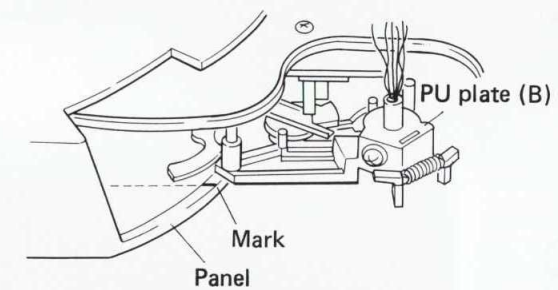

Fig. 3-4 Attach PU plate (B)
3. Install the PU plate (B) assembly in reverse sequence of the removal. In this case, however, install the PU plate (B) assembly so that the mark on the panel is on the line extended from the side plane of the PU plate (B) (Fig.3-4).